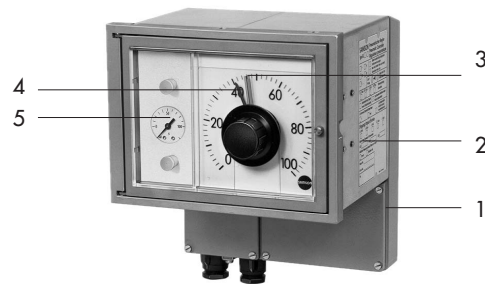

Fig. 2 · Fixed set point controller for standardized signals with Type 3432-01 Controller Station
**Fixed set point controller** (Figs. 2 and 3) · With input 0.2 to 1 bar, 3 to 15 psi or 4 (0) to 20 mA
**Follower controller** · Same as fixed set point controller, but with additional input for external reference variable  $w_{ext} = 0.2$  to 1 bar, 3 to 15 psi or 4 (0) to 20 mA · Without set point adjuster